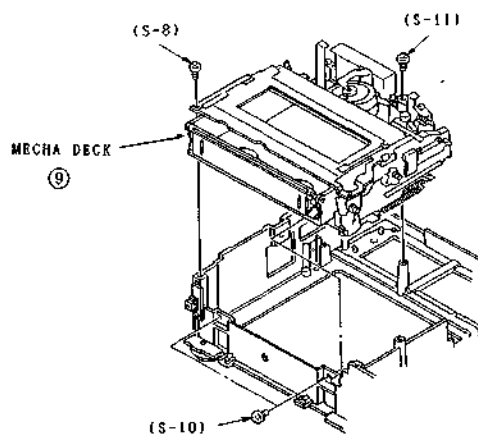

Fig. 20
- Remove the screws S-8, S-10 and S-11 (Fig. 20).